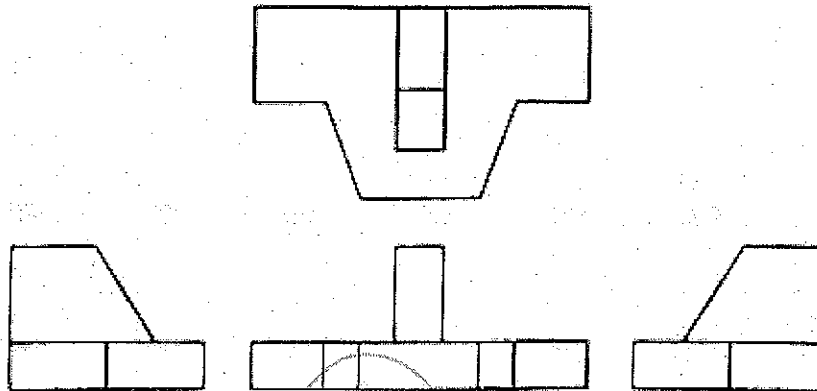

Figure: 2
9. Draw the isometric view of the casting shown in following figure 2. All dimensions are in mm. [15]